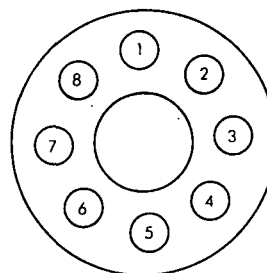
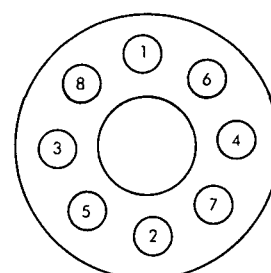

Figure 15
Figure 16
- E. Tightening is accomplished by tightening in multiple passes to the torques and patterns specified in Table 11, Page 14. Tightening patterns are shown in Figure 15 and Figure 16.